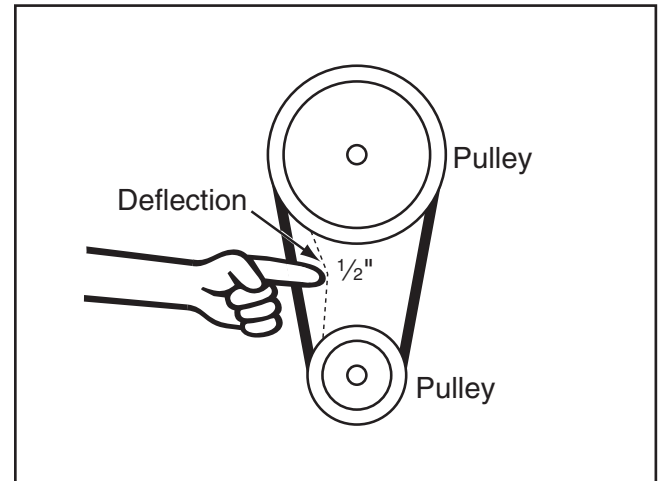

Figure 57. Checking V-belt tension.
5. Lower the motor and adjust the V-belt tension with the tension rod fasteners so there is approximately $\frac{1}{2}$ " deflection when the belt is pushed with moderate pressure, as shown in **Figure 57**.